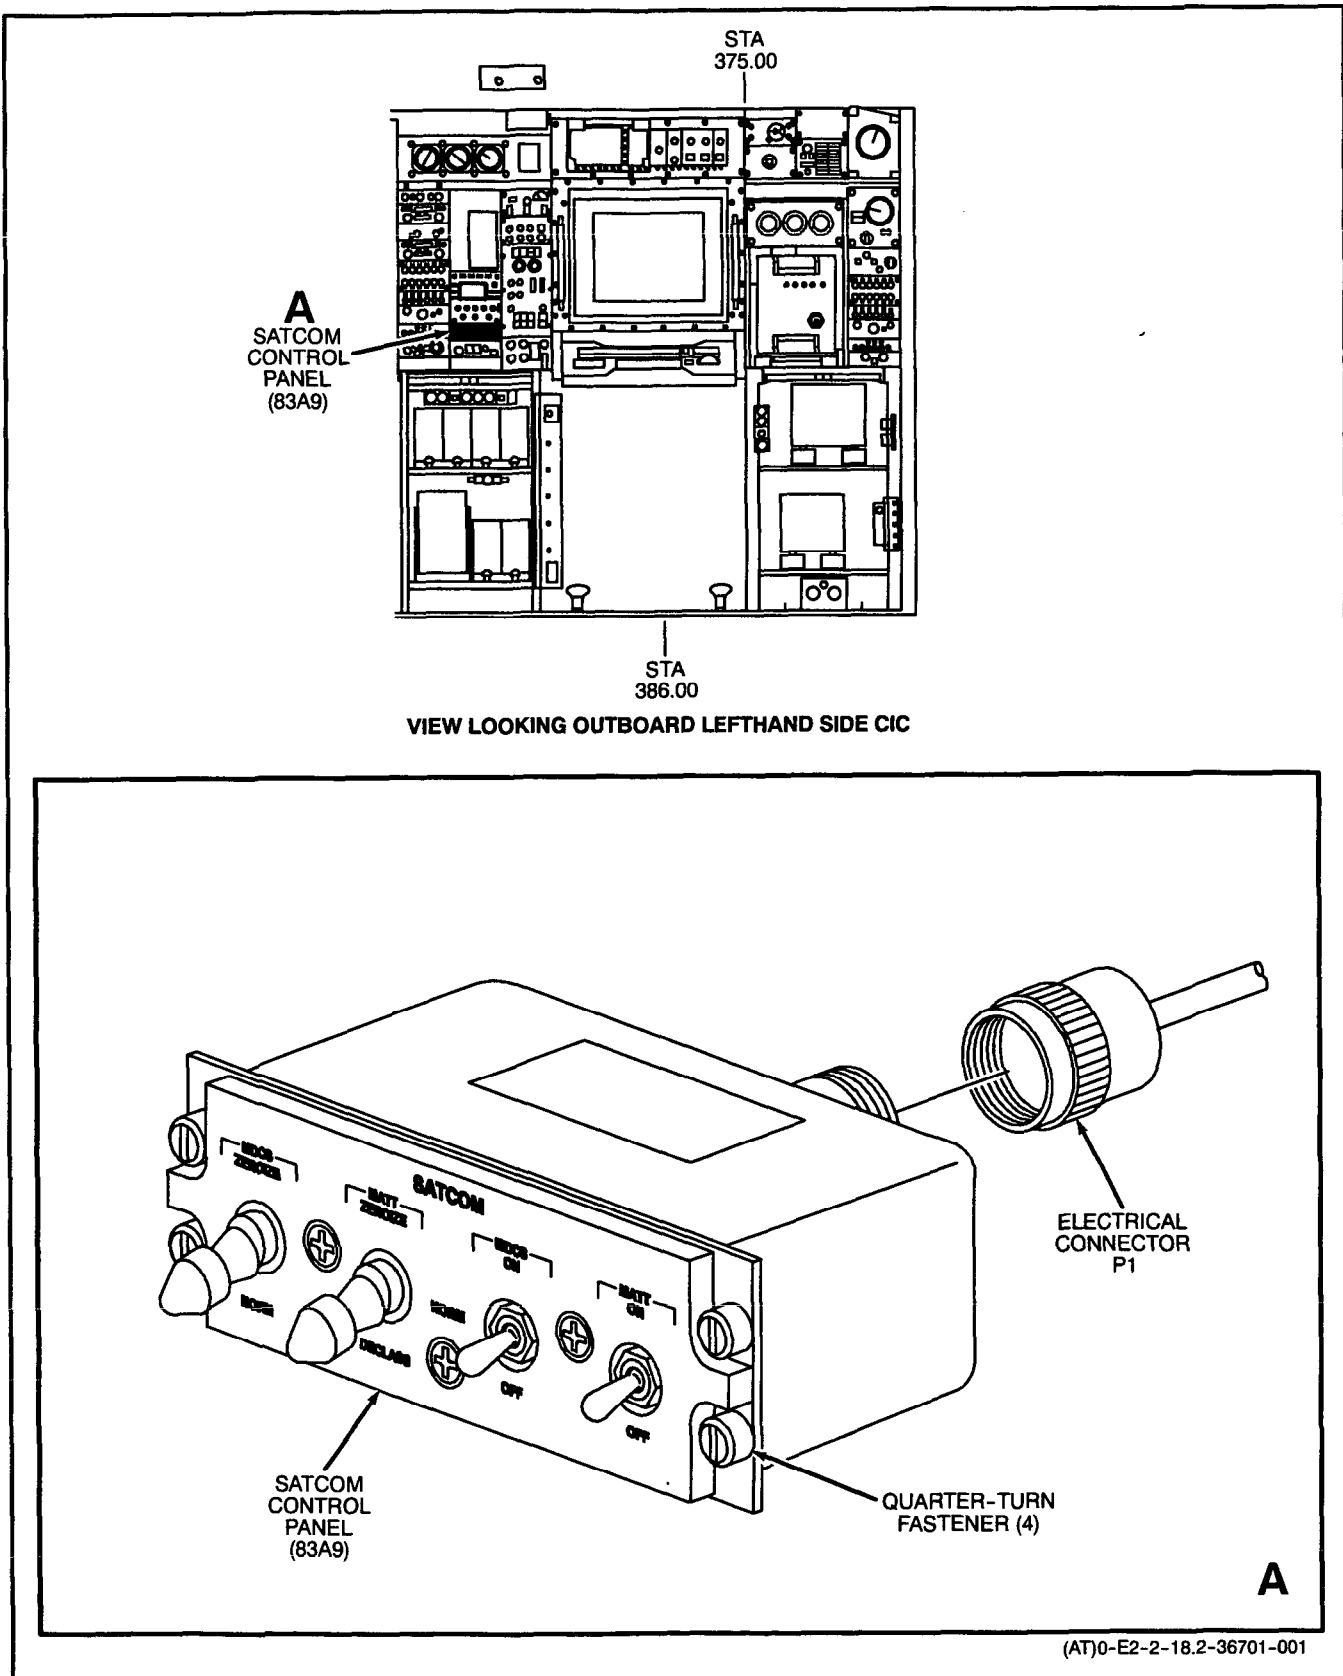

Figure 1. Removal and Installation of SATCOM Control Panel (83A9)
**2. INSTALLATION.** (Figure 1.)
c. Remove caps and connect electrical connector to SATCOM control panel. (QA)
e. Inspect area for proper installation of all components, evidence of corrosion, foreign objects, and any other nonflightworthy condition. (QA)
f. Perform operational check of the Satellite Communications (SATCOM) System (NAVAIR 01-E2AAA-2-17.1.1, WP021 03). (QA)